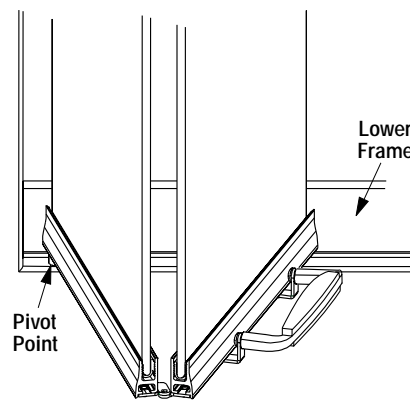

Figure 5
Step 2. Lift and swing the lower corner of the door over the hole in the lower frame and engage the shorter hinge pin into this hole (Figures 5 and 6).